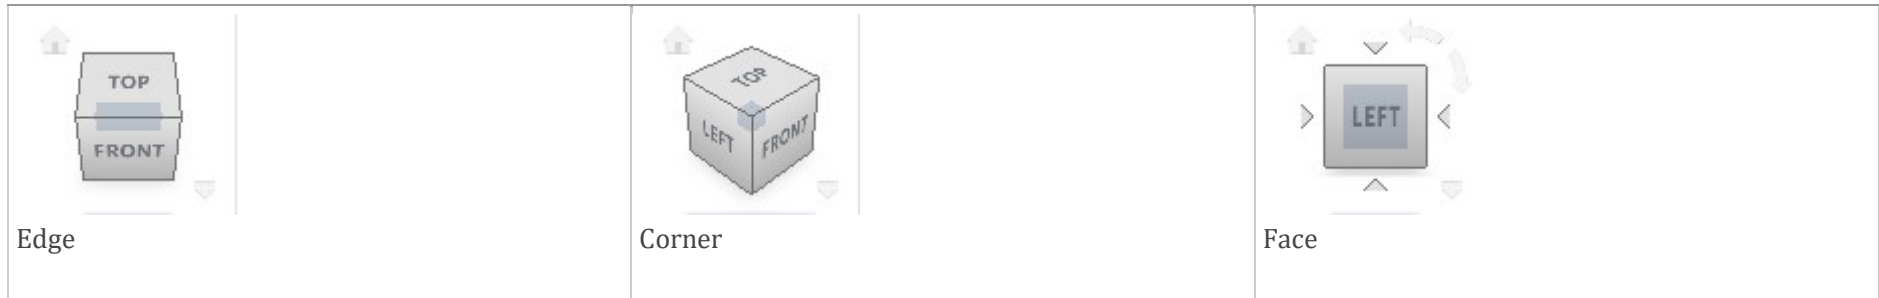

Fig.1.3- Status Bar.
- You can toggle settings such as grid, snap, polar tracking, and object snap. You can also access additional settings for some of these tools by clicking their drop down-arrows. Ref.Image.Fig.1.3